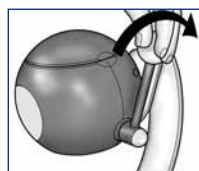

Fig. 5
- Push the power lever (7) back to the pre-heat position (Fig. 5). The pre-heat indicator light (8) will switch on.
- After around 3 minutes, once the temperature has been reached, the pre-heat indicator light (8) will switch off and the appliance will emit a sound signal. At this point, the appliance is ready to dispense coffee.
- Move the power lever (7) to the pre-heat position (Fig. 5). In this position, the boiler tank remains pressurised without dispensing any liquid from the nozzles on the filter holder.
- Fill the boiler tank (as explained in the section entitled "Making coffee") and move the power lever (7) to the pre-heat position (Fig. 5). The indicator light (8) will switch on.
- Dissolve one full tea-spoon of decalcifying product (about 8 g.) in 1 measure (14) of warm water (about 220 ml), pour the solution into the boiler and close the boiler cap.
- Bring the lever (7) to the pre-heat position (Fig. 5).